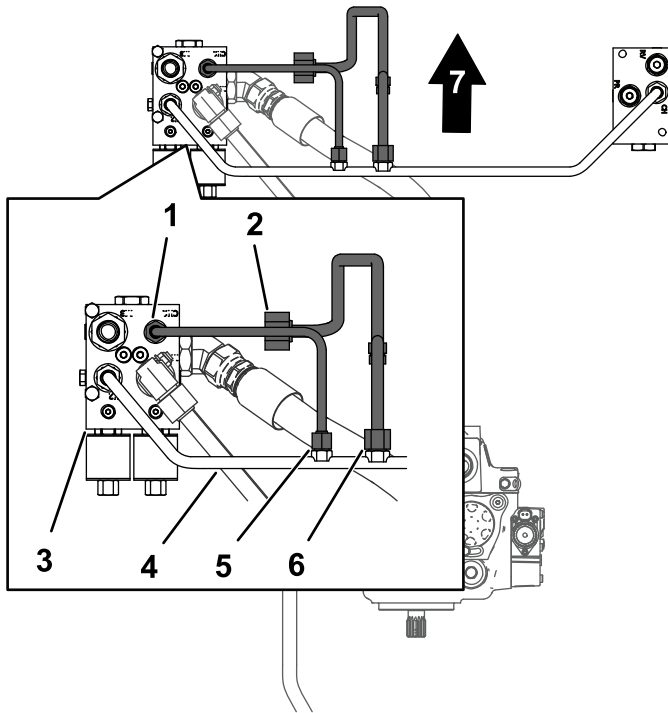

Figure 10
1. Prepare the hydraulic-filter tube retained from Removing the Cross Tube \(page 4\). Align the tube nut for the hydraulic-filter tube to the fitting in the cross-manifold tube as shown in Figure 10.
3. Align the tube nuts for the divider tube to the fittings in the cross-manifold tube and the flow-divider manifold (Figure 10).